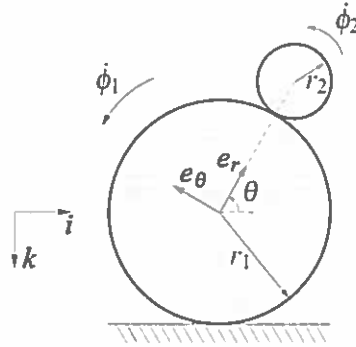

Figure 4.1 Self-balancing robot with two wheels.
4. A 2-wheeled self-balancing robot comprises a small uniform wheel of radius r_2 that rolls by an angle ϕ_2 without slipping on a large uniform wheel of radius r_1 under the influence of gravity, as shown in Figure 4.1; the small wheel is constrained to always touch the large wheel by a massless link (not shown) joining the centres of the two wheels. The large wheel rolls by an angle ϕ_1 without slipping on a horizontal surface, and the large wheel centre moves horizontally by a distance x . The mass and spin inertia of the large wheel are m_1 and I_1 respectively, and the corresponding quantities for the small wheel are m_2 and I_2 respectively. A control torque T_c is applied on the large wheel and reacts on earth.
A fixed Cartesian coordinate system with unit vectors i and k , and a moving Cartesian coordinate system with unit vectors e_r and e_θ (see Figure 4.1) are used to analyse the motion of the two wheels. The moving coordinate system has its origin at the centre of the large wheel and it rotates with the line joining the centres of the two wheels by an angle θ .